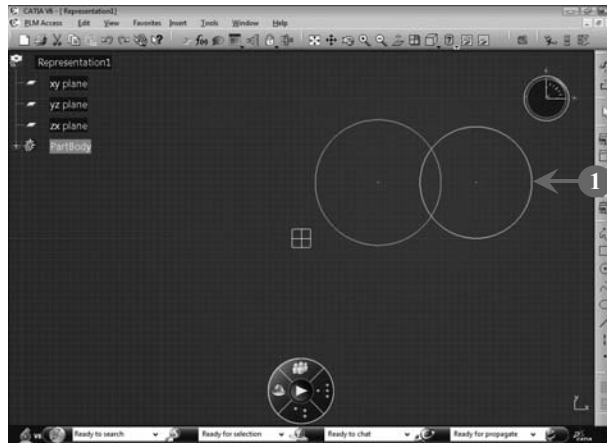

FIGURE 2.46
1. *Select* the part of the sketch that you want to trim. In our case, we have selected a section of intersecting circles, as shown in **Figure 2.46**: